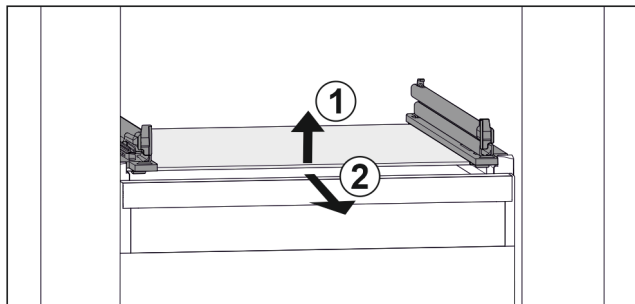

Fig. 38 Example illustration of glass shelf
- Lift glass shelf at the front. Fig. 38 (1)
- Take out glass shelf to the front. Fig. 38 (2)